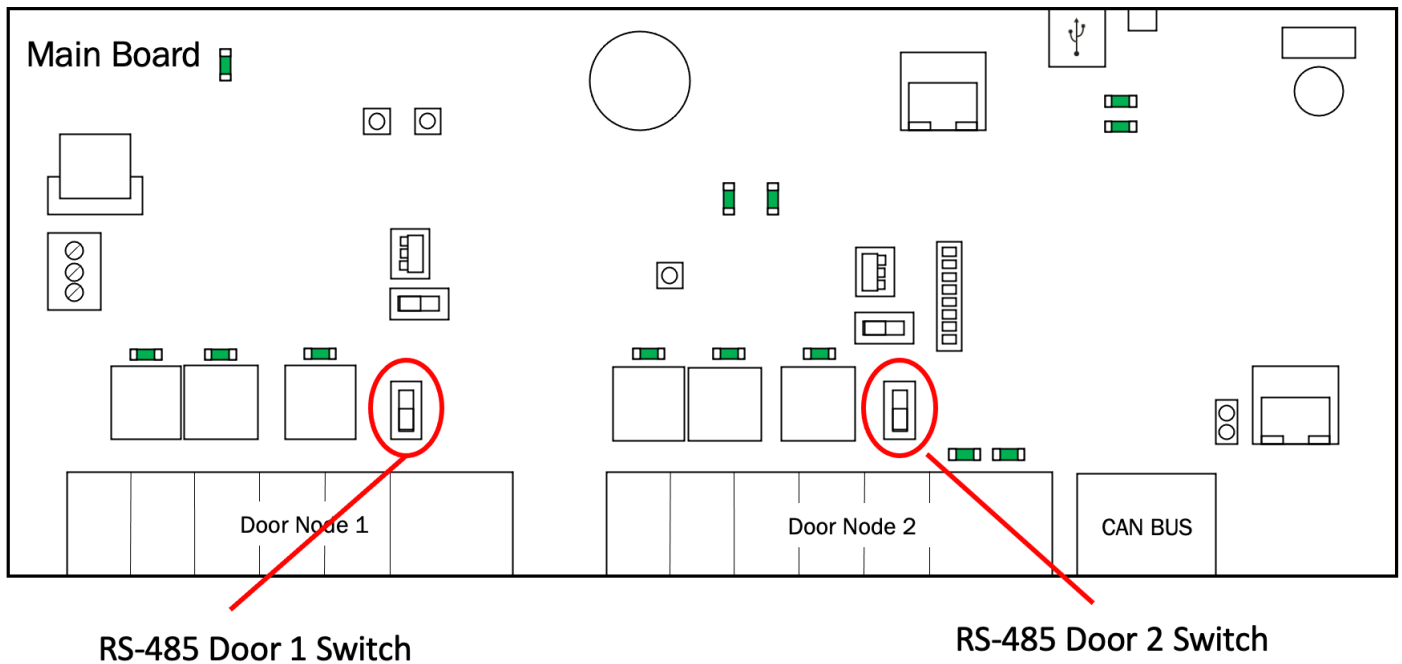

Figure 21 - RS-485/Wiegand Switch Locations
- Eight (8) relays on the I/O Board. The ratings are 28VDC, 3A each.
- e) The other wire from the B-ACS6000-MBE/MBS is connected to wire 2 from the switch, as shown in Figure 21.